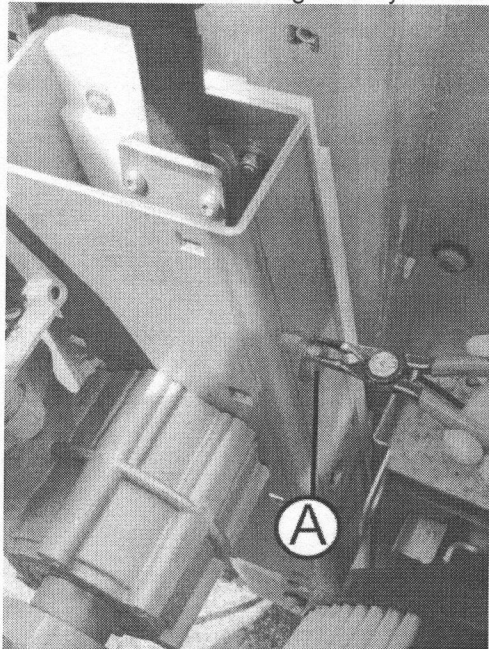

Fig. 051
3. Loosen both lifting belts by removing the stud (A) (Fig. 051).